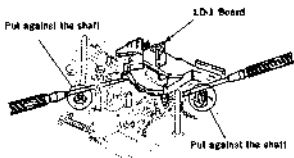

Fig. 1
- (1) Remove the Cassette-up Compartment Assembly referring to Section 2-13.
- (2) Disconnect the connector (CN301) on the RS-31 Board.
- (3) Remove the T Reel Table Assembly referring to Section 7-2-14.
- (4) Remove the stopper washer and remove the Drive Gear B Assembly.
- (5) Remove the LD-1 Board. (fig. 1)
- (6) Remove the Lock Slider M Assembly referring to Removal Steps (3) to (5) of Section 7-2-20.
- (7) Remove the tension spring and remove the B Release Arm Assembly.
- (8) Check that the M-mode is put into **EJECT** mode.
- (9) Remove the stopper washer and remove the Mode Output Gear.
- (10) Release the two claws of the Control Motor Cover and remove the Push Switch.
- (11) Disconnect the connector (8P) on the M-switch Assembly.
- (12) Remove the two fixing screws and remove the Control Motor Cover L.
- (13) Remove the fixing screw and while lifting up the M-switch Assembly, push the T.S Release Arm in the direction of the arrow A. Then push the T Main Brake Assembly in the direction of the arrow B and remove the M-switch Assembly.